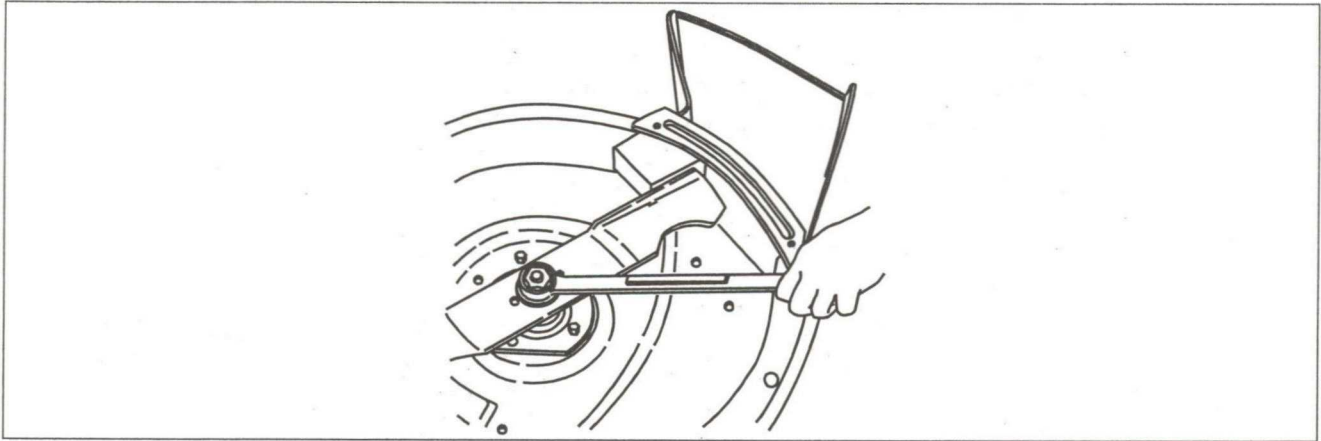

Figure 27
1. Secure the cutting blade by putting a piece of wood between the blade and the housing. (See Figure 27)